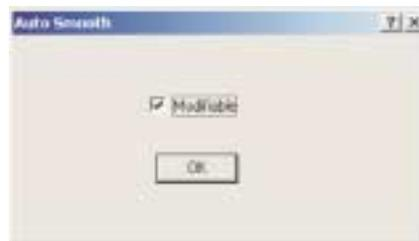

Figure 26. Auto Smooth dialog box
2. Select **Draw | Smooth | Auto smooth** to open the Auto Smooth dialog box (see Figure 26).
5. If "Modifiable" was checked, control points appear (see Figure 26). Drag the control points using the left mouse button. If "Modifiable" was not checked, the smoothing process will be automatic.